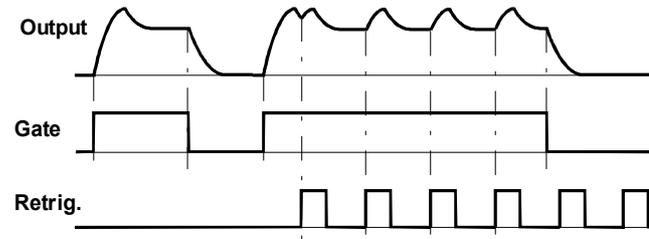

Fig. 2: Envelope re-triggering
The A-141 VCADSR also has a **retrigger facility**: *while the gate is open*, a trigger pulse received at the retrigger socket will **re-start the envelope** from the beginning of its attack phase (see Fig. 2 on page 5).
Socket ⑥ is the VCADSR's **retrigger input**. This is where you patch in a voltage to re-trigger the envelope. If, for instance, you patch an LFO in, then *while the gate is open*, the envelope is re-triggered every time an LFO pulse is received (see Fig. 2).